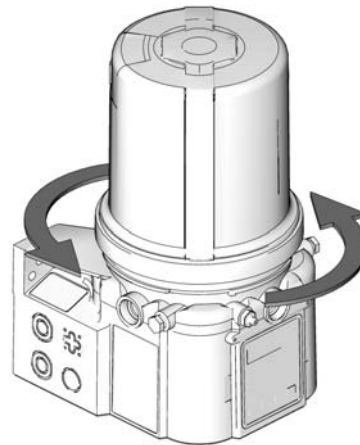

FIG. 2
3. Use a strap wrench around reservoir to turn reservoir 1/4 turn counter-clockwise (FIG. 2).